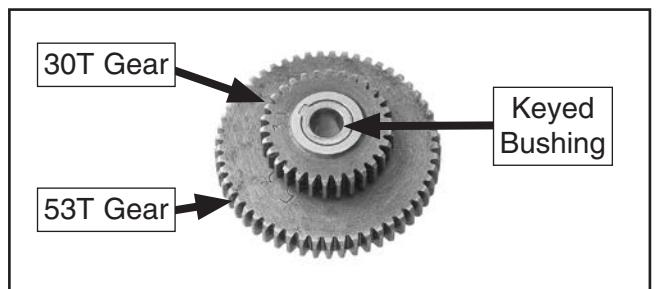

Figure 84. 53T/30T gears assembled.
18. Install 30T gear with keyed bushing onto 53T gear (see **Figure 84**). Hub of 53T gear should face 30T gear.